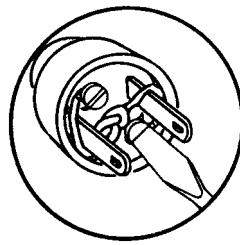

Fig. 10
10. Tighten the screw. Insulation should come to the screw but not under it (Fig. 10).